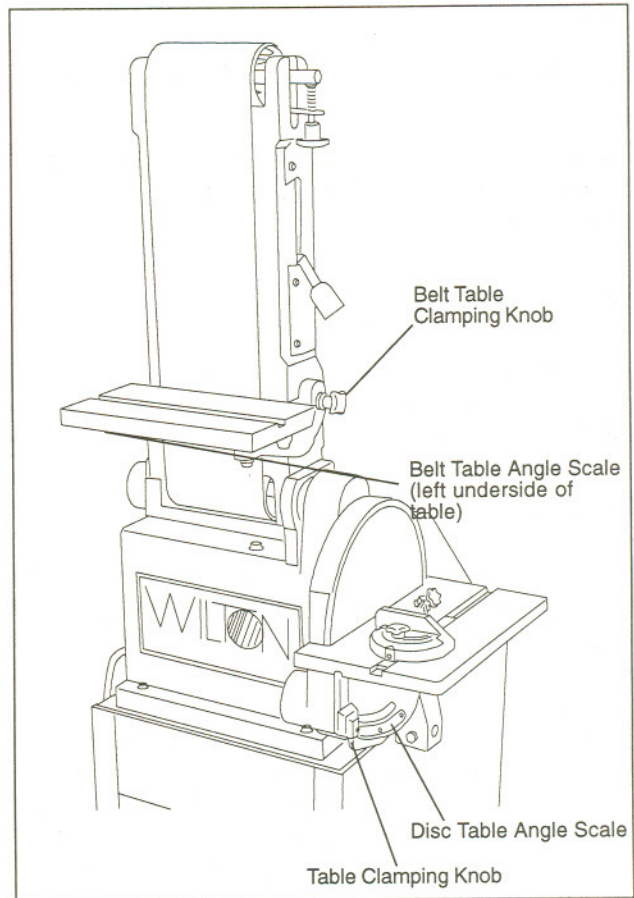

Figure 8. Adjusting Sander Table Angle
1. To change the disc table angle, loosen the knob on the left side of the table (refer to Figure 8).
1. To change the belt table angle, loosen the knob on the right side of the platen housing (refer to Figure 8).